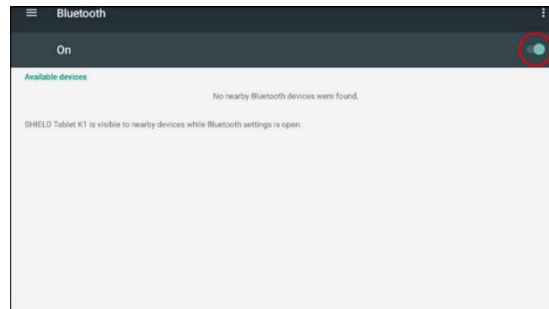

FIG. 8.2: Toolbar Bluetooth shows is switched on (red circle).
- Activate the Bluetooth connectivity on the device (Figure 8.2); make sure that the visibility of the remote device is active;